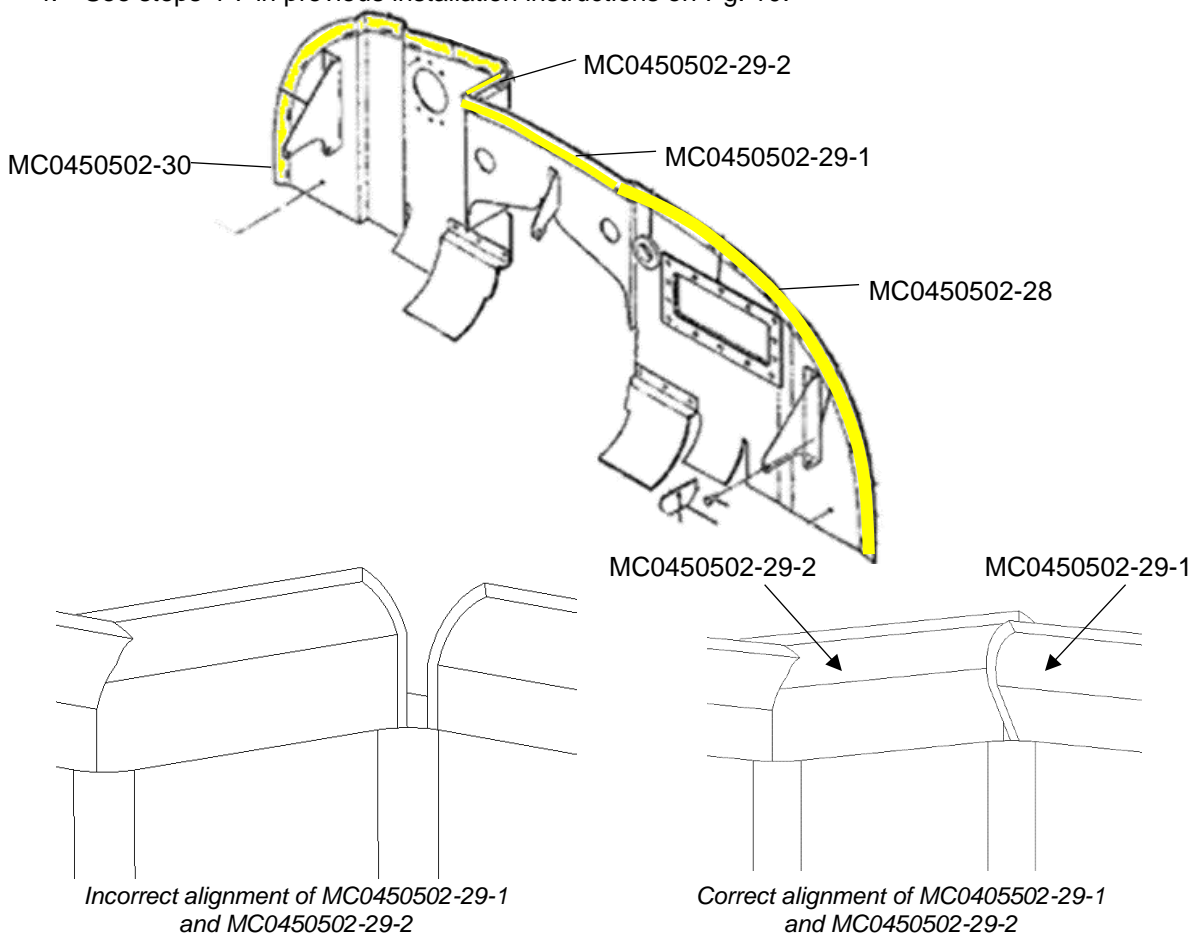

Figure 8: Special Installation Instructions for MC0450502-6
P/Ns MC0450502-29-1 and MC0450502-29-2 were designed so that there is extra material in the corner where they meet and make a right angle. The added material will allow for the seals to curve against the cowling while keeping the needed air tight seal. There should be an overlap of material when the cowling is reinstalled as seen in the right image of Figure 8. The left image shows how, if the seals are not mounted correctly, can create a gap at the turn that will cause poor recirculation of air.
2. 0450502-6 will be replaced with MC0450502-28, MC0450502-29-1, MC0450502-29-2, and MC0450502-30. See Figure 8 below for location and orientation of new seals.
3. Use Figure 8 for installation orientation and overlap of MC0450502-29-1 and MC0450502-29-2
Note: MC0450502-29-2 should overlap MC0450502-29-1 to create a seal between the seals as shown in Figure 8.